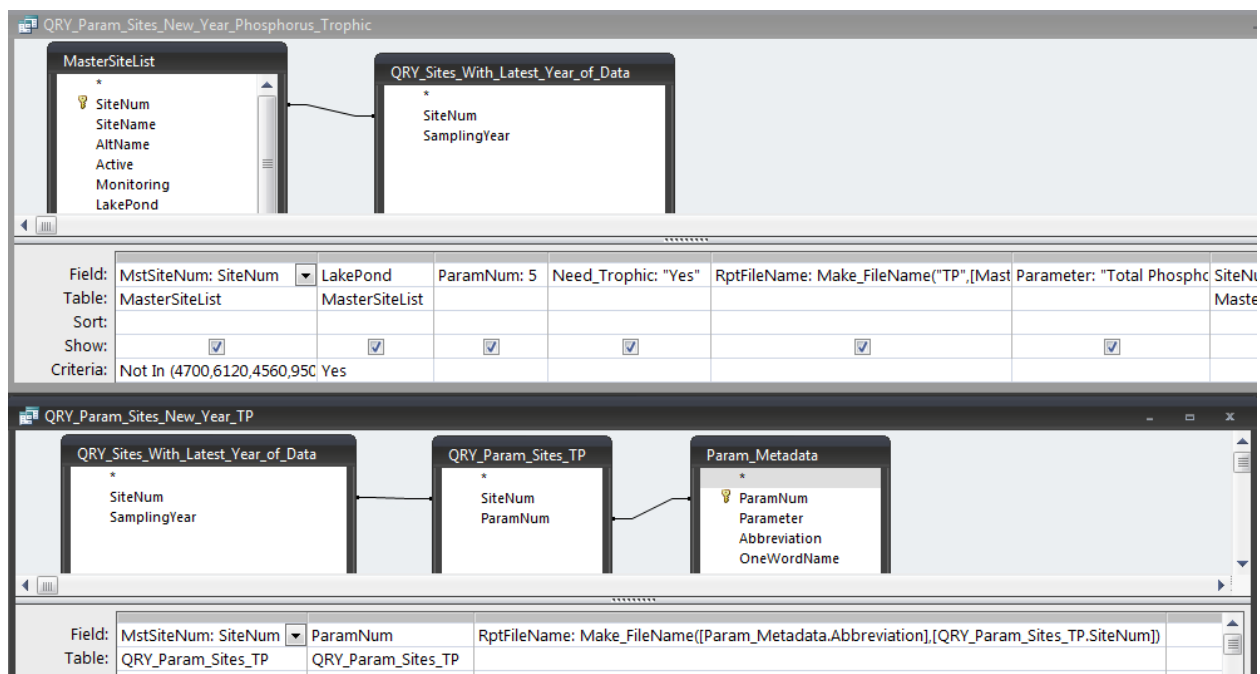
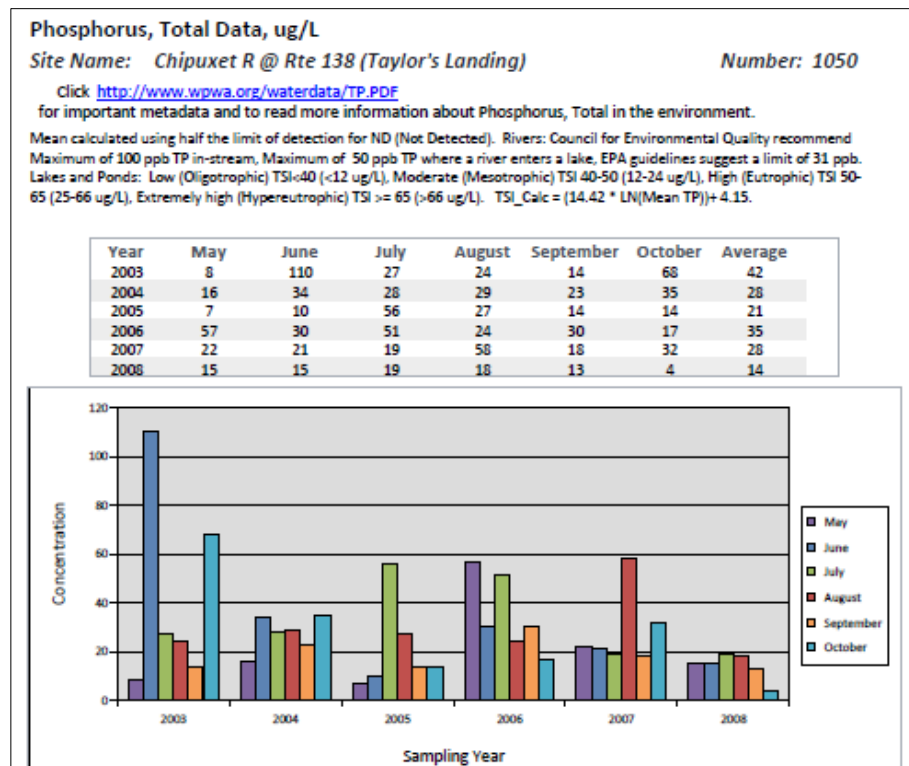

Figure 50. *QRY_Param_Sites_New_Year_Phosphorus_Trophic* and *QRY_Param_Sites_New_Year_TP*.
Figure 51. Example of a total phosphorus report WITHOUT trophic status (TSI).
constructed by linking the *QRY_Param_Sites_* queries with *QRY_Sites_With_Latest_Year_of_Data* (Figure 50). For total phosphorus WITHOUT trophic status, the *QRY_Param_Sites_* queries are used by the *Generate_Chemistry_Reports* function when it calls the *Make_Chemistry_Reports* subroutine to produce reports, just like with the rest of the chemistry data. In addition, the rest of the queries and reports used to create the total phosphorus WITHOUT TSI report pages are very similar to those described for the rest of the chemistry data and include: *QRY_Crosstab_TP* (also used as the basis for the total phosphorus with TSI crosstab query), *RPT_Crosstab_TP*, *QRY_PivotChart_TP* (also used as the basis for the total phosphorus with TSI PivotChart query), *FRM_PivotChart_TP*, *QRY_For_Rpt_TOP_TP*, and *RPT_TOP_TP* (Figure 51).
The total phosphorus WITH TSI reports are produced somewhat differently. If "Total Phosphorus, Lakes/Ponds with Trophic Status" is selected from *Frm_Report_Options*, the number "18" is passed into the *ReportIt* macro instead of the *ParamNum*. This is because the total phosphorus *ParamNum* (5) was already used to generate reports for total phosphorus without TSI. The *ReportIt* macro calls the VB function named *TP_TSI_Report* (Figure 52), passing the report sites options number (1, 2, or 3) and the *SiteNum* for which to generate a report if the report sites option is "3" (one site only) into the function as arguments. The *TP_TSI_Report* function first empties the *TBL_One_Param_For_Report* table, and then either adds total phosphorus data for one site (if the report sites option value is "3") or all sites (report sites option of "1" or "2") to the table. The function then calls the *Make_Chemistry_Reports* subroutine using *RPT_TOP_Phosphorus_Trophic* as the report name and either the *QRY_Param_Sites_New_Year_Phosphorus_Trophic* query (report site option "2", Figure 50 above) or the *QRY_For_Rpt_TOP_Phos_Trophic* query (report site options "1" and "3") to create the report generation recordset. Finally, the function empties the *TBL_One_Param_For_Report* table and exits.